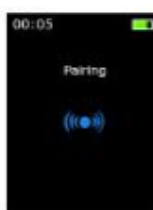

Figure 9-3
- 4) Immediately apply power to ECB. Figure 9-3 indicates an attempt to pair.